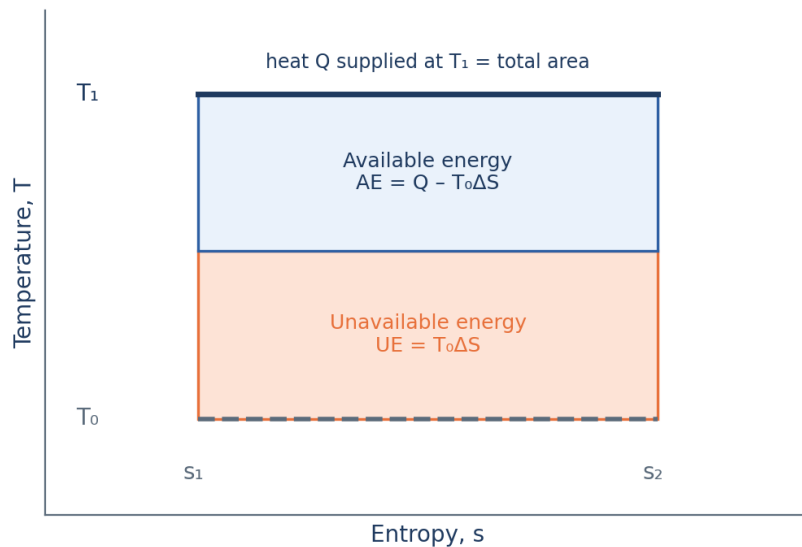

Figure 2.8 Available and unavailable energy of heat supplied at  $T_1$  with surroundings at  $T_0$  on the  $T$ - $s$  diagram.
The **available energy (AE)**, also called the *available part of the energy* or *exergy*, is the portion of the heat that can be converted into useful work by an ideal engine; the **unavailable energy (UE)** is the portion that must be rejected to the surroundings and can never be converted into work. On the  $T$ - $s$  diagram (Figure 2.8) the heat  $Q$  is the whole area under the constant-temperature line  $T_1$  between  $s_1$  and  $s_2$ ; the unavailable energy is the rectangle  $T_0(s_2 - s_1)$  beneath  $T_0$ , and the available energy is the area between the two lines. The unavailable energy therefore depends on the temperature of the surroundings – on a cold day more of a given quantity of heat is available – and increases with the entropy transferred: **UE =  $T_0 \times$  (entropy change during heat supply)**.